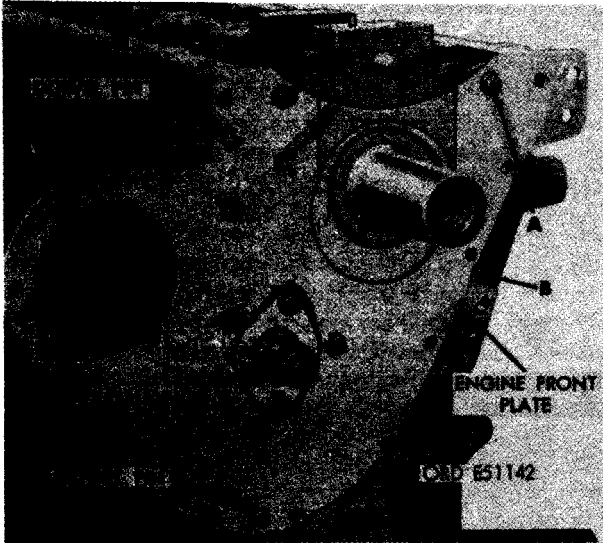

FIGURE 303. REMOVING OR INSTALLING ENGINE FRONT PLATE.
b. Removal. Figure 303. (A) Remove six  $\frac{3}{8}$  x  $\frac{1}{2}$  cap screws and  $\frac{3}{8}$ -inch lock washers securing engine front plate to cylinder and crankcase assembly. (B) Remove engine front plate. (C) Remove engine front plate gasket.